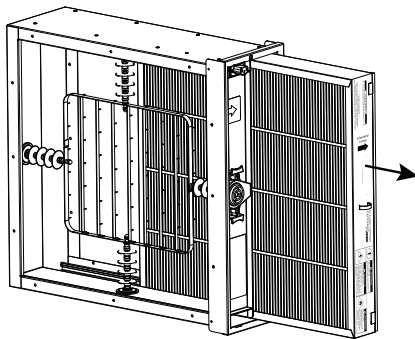

Fig. 6 - Removing Filter
3. Remove the Air Purifier cartridge and Filter Enhancement Module (FEM) from the Air Purifier cabinet. See Fig. 6 and 7.